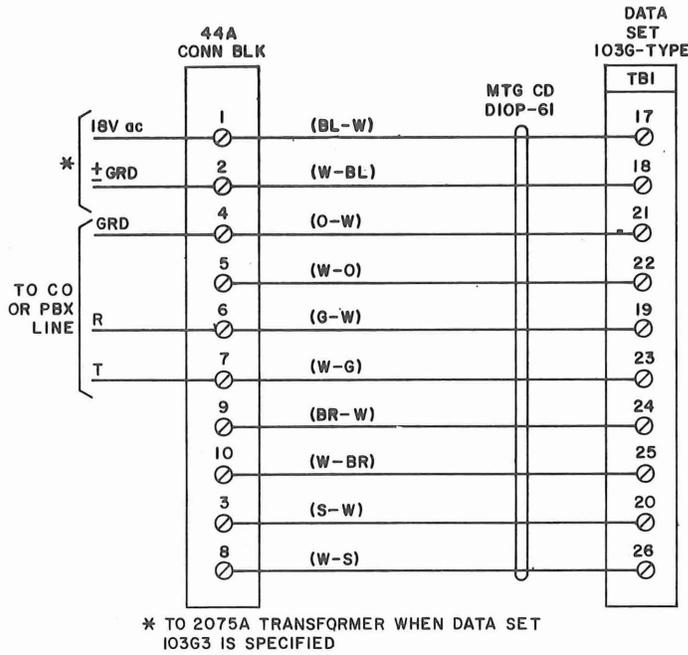

Fig. 3—Data Set 103G-Type—Connections Without Data Auxiliary Set 801-Type
3.01 The telephone line connections for Data Set 103G-type without Data Auxiliary Set 801-type are shown in Fig. 3.
(e) Connect T and R (See Fig. 3 or 4) to the TTS-28 test set and set the function switch to the DBM 900Ω TERM position. If a Data Auxiliary Set 801-type is used, remove ac power from the DAS 801 before making this measurement.